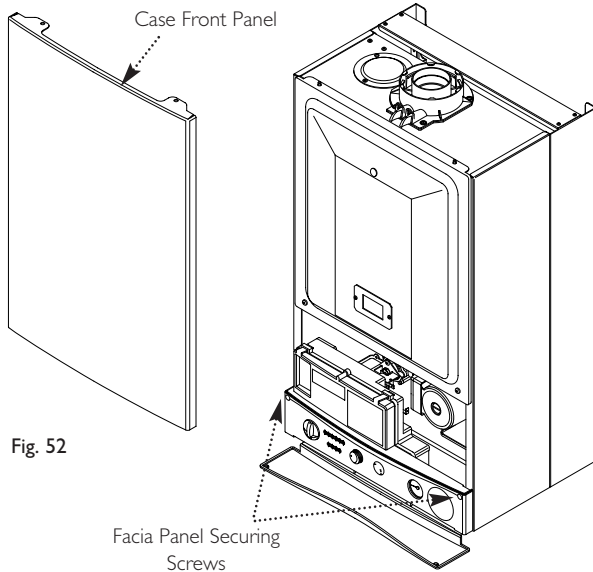

Fig. 52
5. Slacken the screws securing the fascia panel. Lift the outercase panel so that its securing tabs are clear of the fascia. Remove the panel, allowing the fascia to hinge down (Fig. 52).